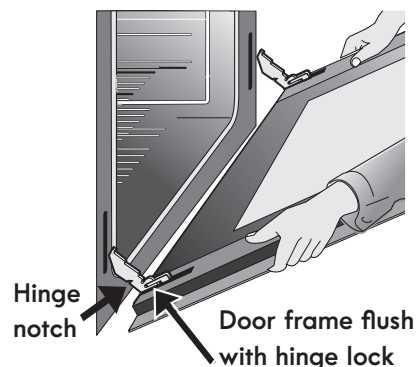

Figure 16: Remove door position
4. Pull the bottom of the door toward you while rotating the top of the door toward the appliance to completely disengage the hinge levers (Figure 16).
1. Firmly grasp both sides of oven door along the door sides. Do not use the oven door handle (Figure 16).
2. Hold the oven door at the same angle as the removal position. Carefully insert the hinge levers into the oven frame until you feel the hinge levers are seated into the hinge notches. The hinge arms must be fully seated into the hinge notches before the oven door can be fully opened. (Figure 16).